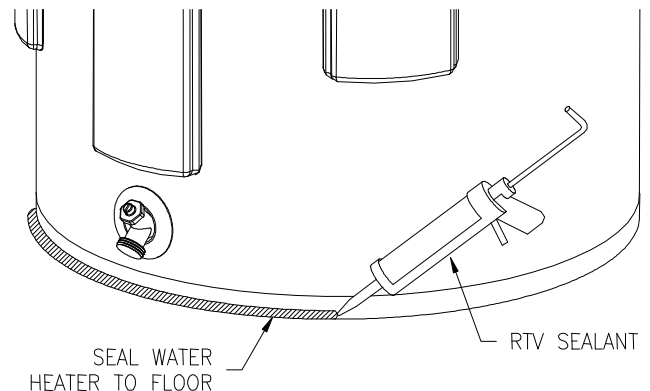

Figure 2
2. Seal water heater to floor using RTV sealant. Be sure to seal water heater completely sealed to floor without leaving voids (**see Figure 2**).